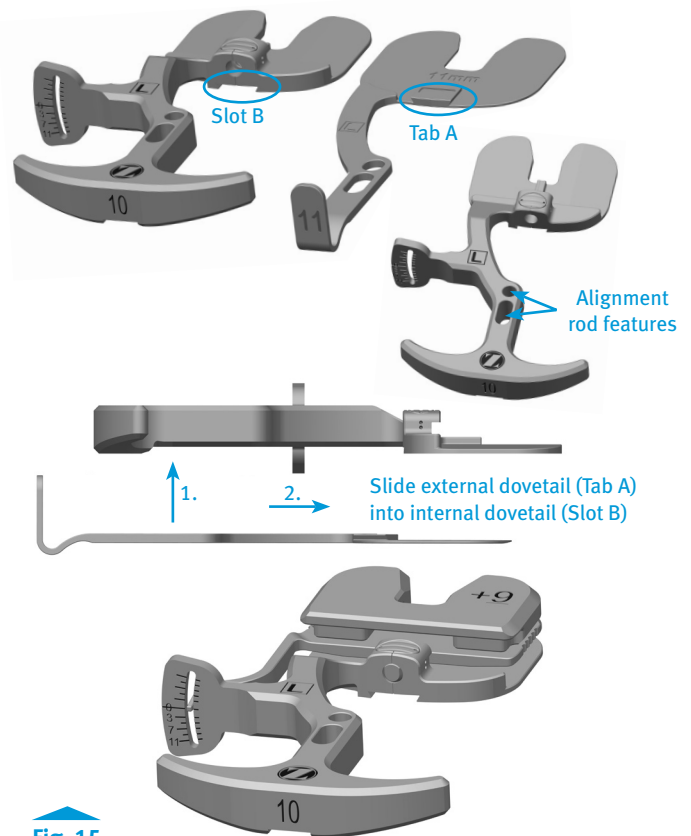
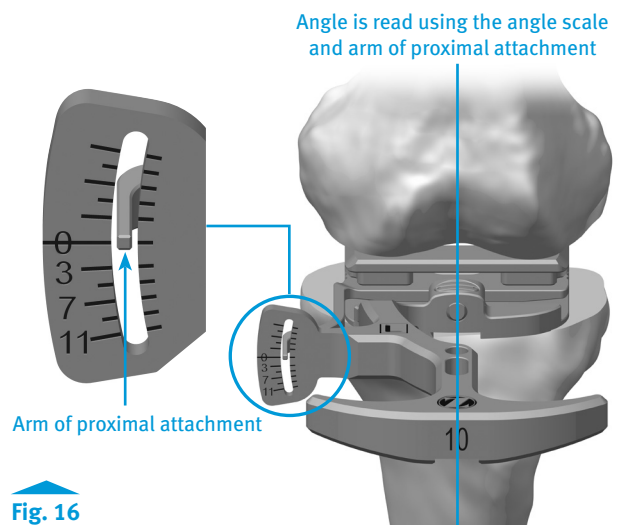

Fig. 15
Fig. 16
- Remove all the osteophytes and complete the initial ligament balancing. Place the leg in extension. Assemble the *Zimmer FuZion* Spacer Block (Fig. 15). Insert the *Zimmer FuZion* Spacer Block into the extension gap (Fig. 16).
- While assessing the gap, it is very important to align the spacer block's center pivot of the femoral paddle with the center of the knee and the AP Axis of the tibial (medial 1/3 of the tibial tubercle and the anterior insertion of the posterior cruciate) (Fig. 16).
Note: Use the +0mm *Zimmer FuZion* Femoral Paddle to evaluate the joint space prior to resection. Add the +9mm *Zimmer FuZion* Femoral Paddle to the +0mm *Zimmer FuZion* Femoral Paddle (attachment is magnetic) to evaluate the joint space after femoral condyles have been resected (Fig. 15).
- Zimmer FuZion* Shims can be added to bottom of *Zimmer FuZion* Spacer Block to increase the construct thickness and achieve the proper joint tension (Fig. 15).
- Zimmer FuZion* Shims are available for 11, 12, 13, 14, 16, 18, and 20mm construct thicknesses (default thickness of spacer block is 10mm) (Fig. 15).
- The angle scale is on the medial side of the instrument should read 0° indicating a rectangular gap. If needed, balance the extension gap using ligament release (Fig. 16).